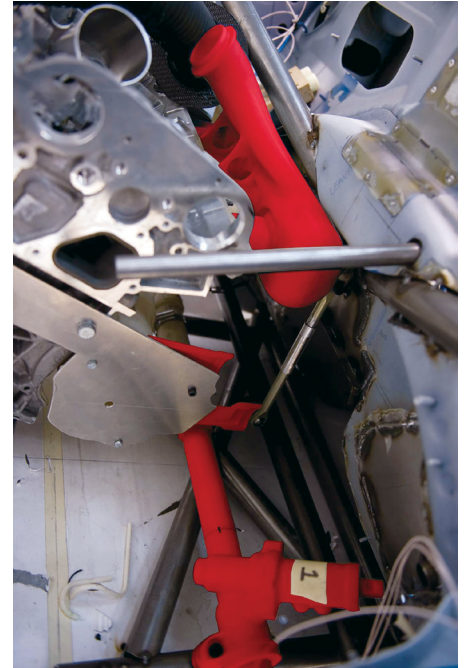

Figure 16: Consider color-coded surrogates to flag for removal.
- Consider red (or other bright color) ABS-M30 or ABSplus (Figure 16).